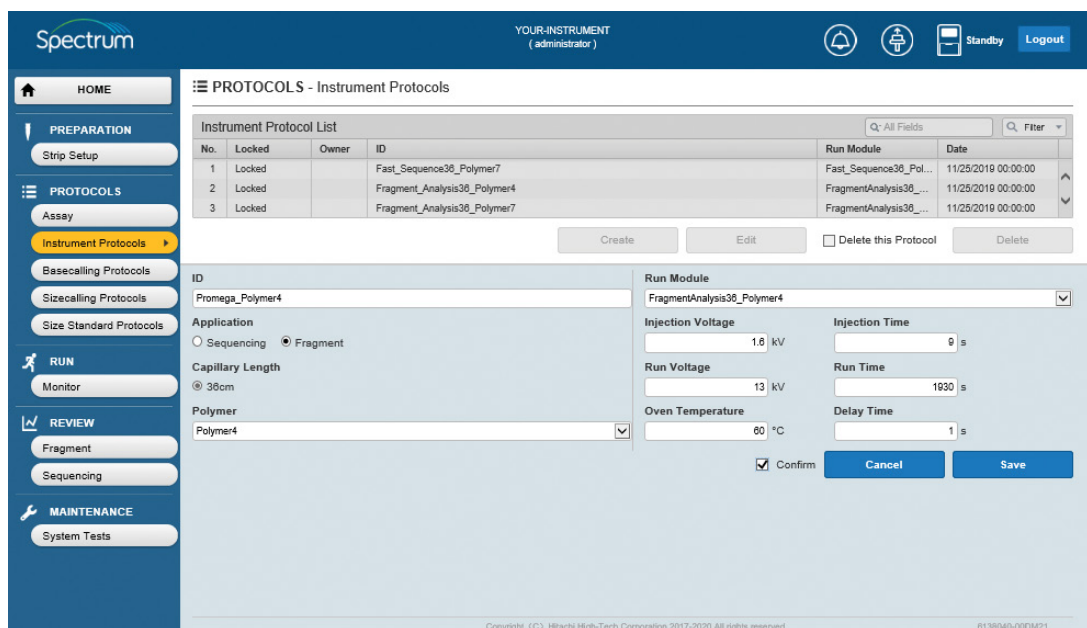

Figure 26. Saving a new instrument protocol.
6. Check the **Confirm** box and select **Save** (Figure 26). If no errors are detected, “Normal End” in a green horizontal box will appear on the screen. If errors are detected, either “Invalid data entered” or “The value is out of range” will appear in a red horizontal box and the software will indicate where the error is occurring.